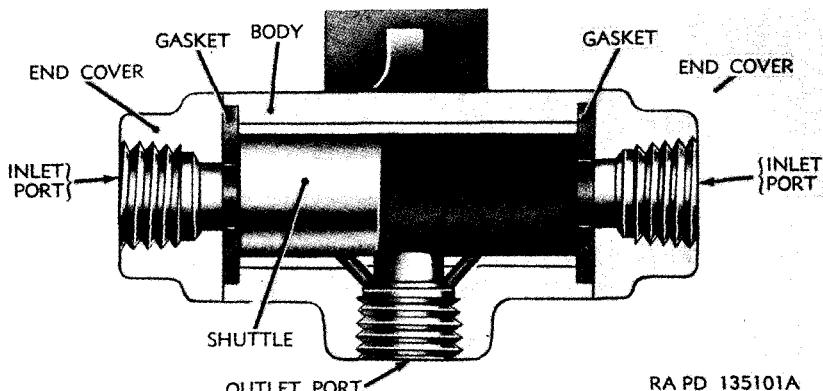

Figure 179. Sectional view—shuttle type double check valve.
c. *Operation* (figs. 179 and 180). The operation of both type valves is similar. As air enters either inlet, the pressure moves the shuttle or disk valve to the opposite end where it seals that inlet opening. The center outlet is always clear permitting unobstructed air flow to the common line. Even in the event that some air pressure may exist in
a. *Shuttle Type* (fig. 179). Plug outlet. Connect air line to one inlet port and apply 100 psi air pressure. Coat other inlet with soap suds to detect and evaluate leakage. Repeat test on other inlet. Leakage that produces a 1-inch soap bubble in less than 3 seconds is not permissible. Coat entire valve with soap suds and check for leakage at end covers. No leakage is permissible.